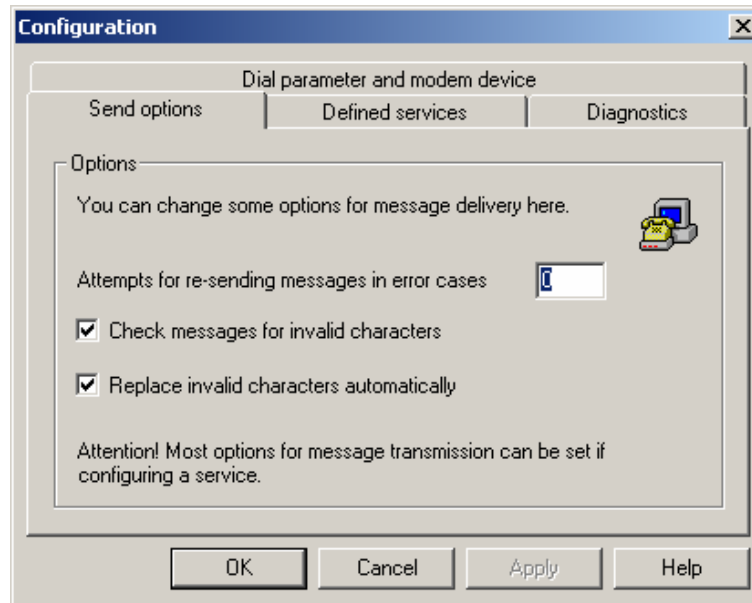

Figure A.6. TAP Configuration: Send Options Tab
- On the **Send Options** tab, shown in **Figure A.6**, configure the following parameters: